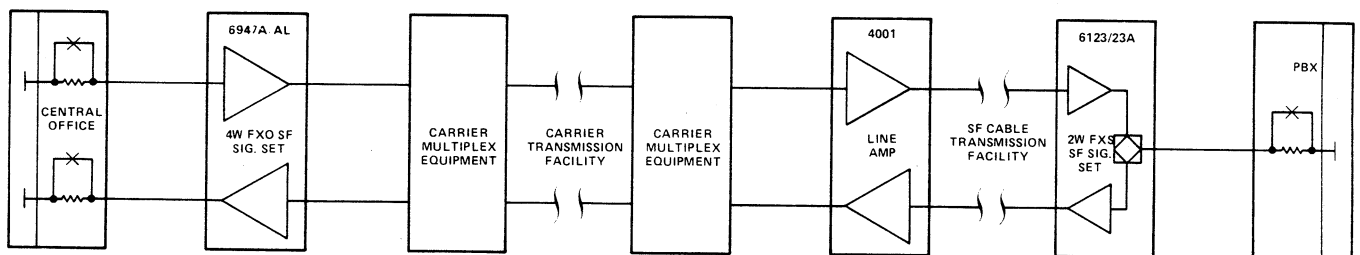

figure 2. Typical foreign-exchange (FX) application of 6123 or 6123A
2.02 Each module is well suited to a variety of 4wire-to-2wire SF-to-FXS and SF-to-station-end-OPS applications, both network-terminating and otherwise. In applications where the serving telephone company uses facility-side SF signaling, each module fulfills Registered Facility Interface Codes OC13A, OC13B, OC13C, OL13A, OL13B, and OL13C. Figures 2 and 3 show typical FXS and OPS applications of the 6123 and 6123A. A special E&M-to-FXS (or E&M-to-station-end-OPS) application of these modules is covered in paragraph 2.21.